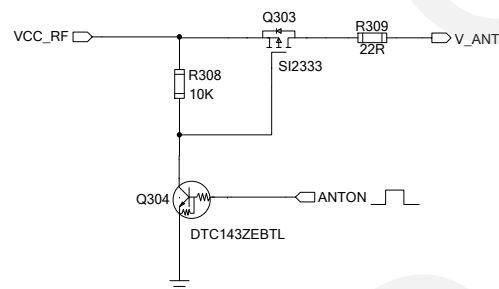

Figure 4
- Figure 4 shows the active antenna with ANTON circuit. The voltage level of ANTON will be pulled down in sleep mode.